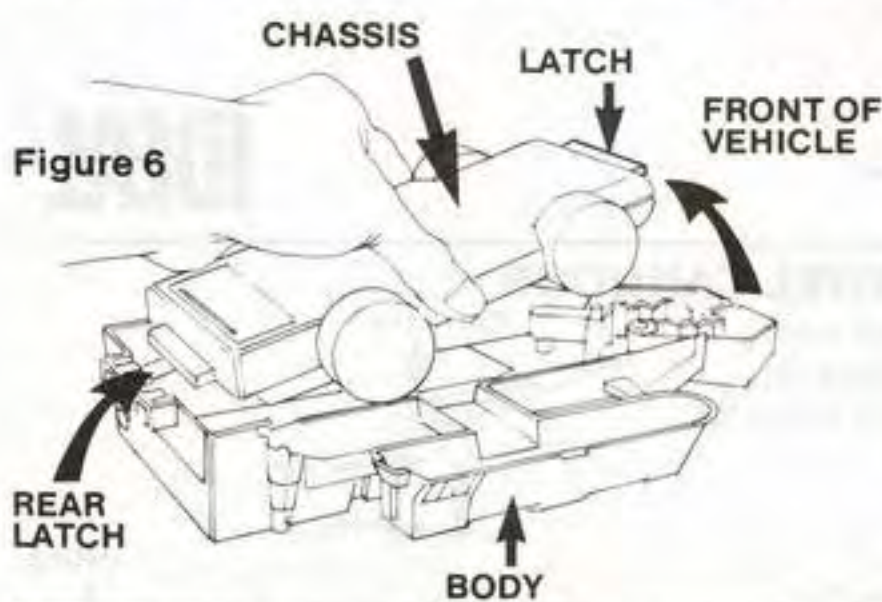

Figure 6
1. To remove CHASSIS, unhook LATCH under FRONT OF VEHICLE, lift CHASSIS away from the BODY, and unhook the REAR LATCH. (Figure 6)